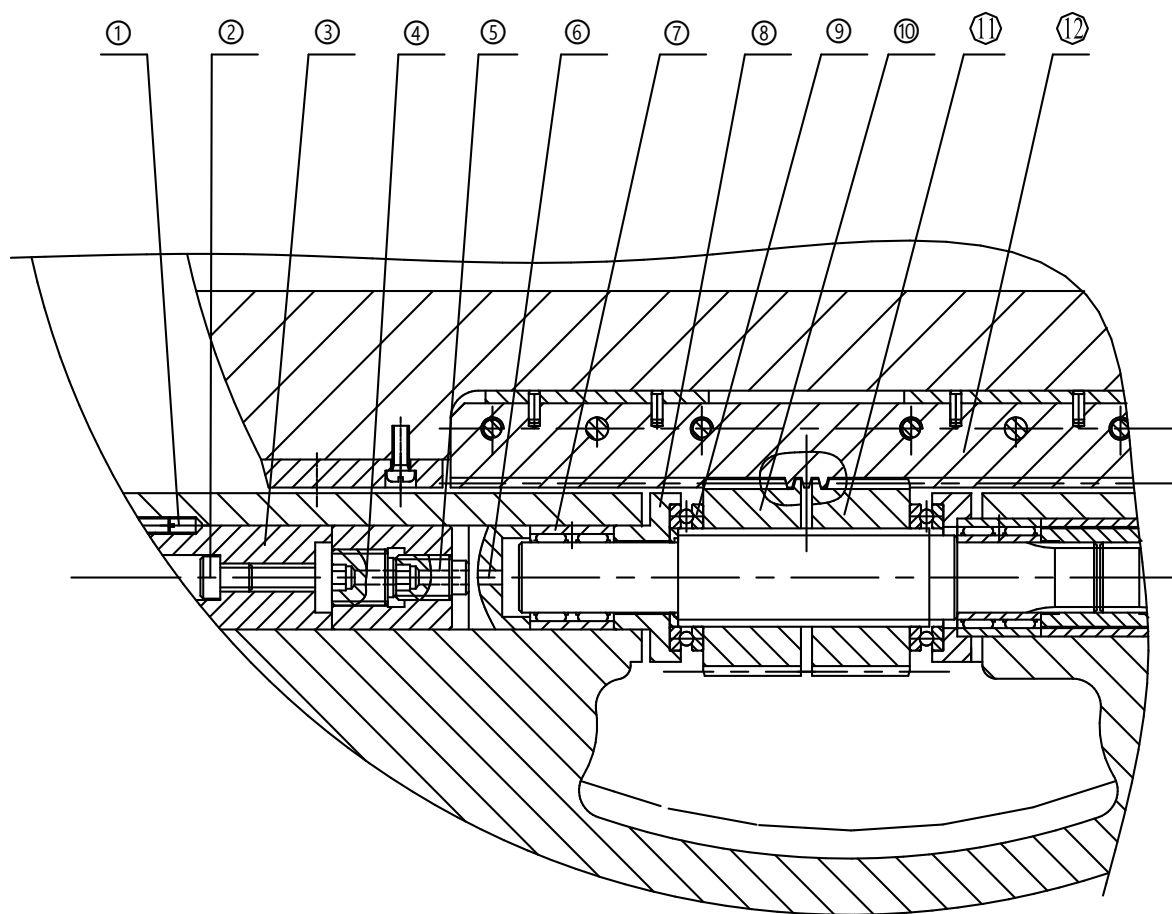

Fig11-3 Simple diagram for radial slide on facing head
Please refer to Fig.11-3. First release the screw ① and ②, and then remove the plug ③ and screw off the locking screw rod ④. After that,turn the regulating screw rod ⑤, then push the press sleeve ⑥ and the needle bearing ⑦. Then push bearing socked ⑧ and the thrust bearing ⑨, press the screw rod ⑩ to eliminate the clearance between the screw rod ⑩ & ⑪ and the rack ⑫. After adjustment, install all the parts removed again.